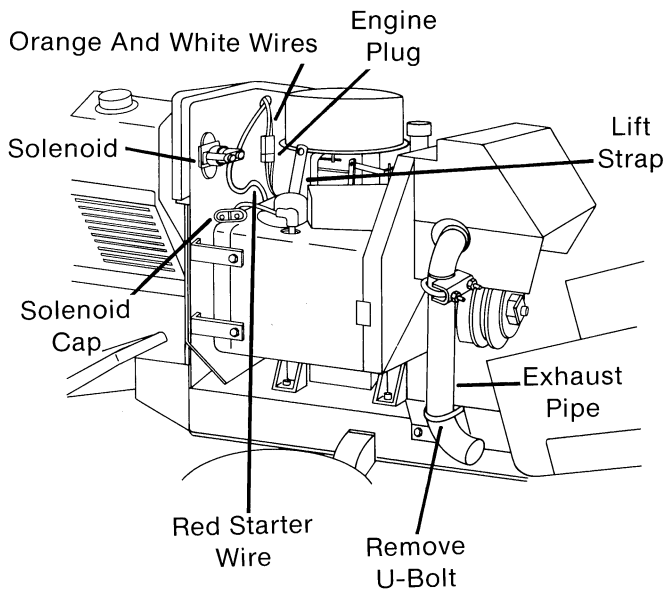

FIG. 3
- b. Orange and white wires at engine plug at upper rear corner of engine. (Fig. 3)
- c. Remove cap on solenoid and disconnect red starter wire at solenoid. (Fig. 3)
- G. Remove two nuts and lockwashers on U-bolt securing exhaust pipe to engine mounting bracket. (Fig. 3)
- N. Using lift strap at top of engine, lift engine up and off of tractor. (Fig. 3) Guide universal joint out of screen while engine is being removed.